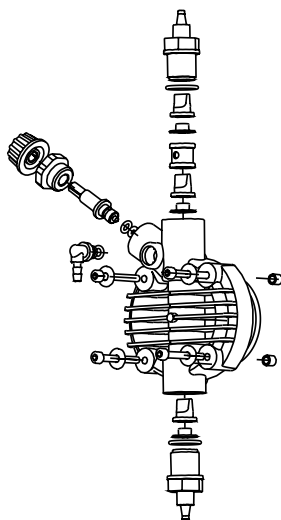

Fig. 10
- the additive concentration in the pipework; a reduction of this concentration could be caused by the wearing of the valves, in which case they need to be replaced (Fig. 10) or by the clogging of the filter which then has to be cleaned as in point 3 here below.
This operation can also be done with the pump disconnected from the plant by turning the pump upside-down for 15 to 30 seconds and without connecting the hose to the nipples; if impossible, dismount and remount the pump head (Fig. 10) using the four mounting screws.